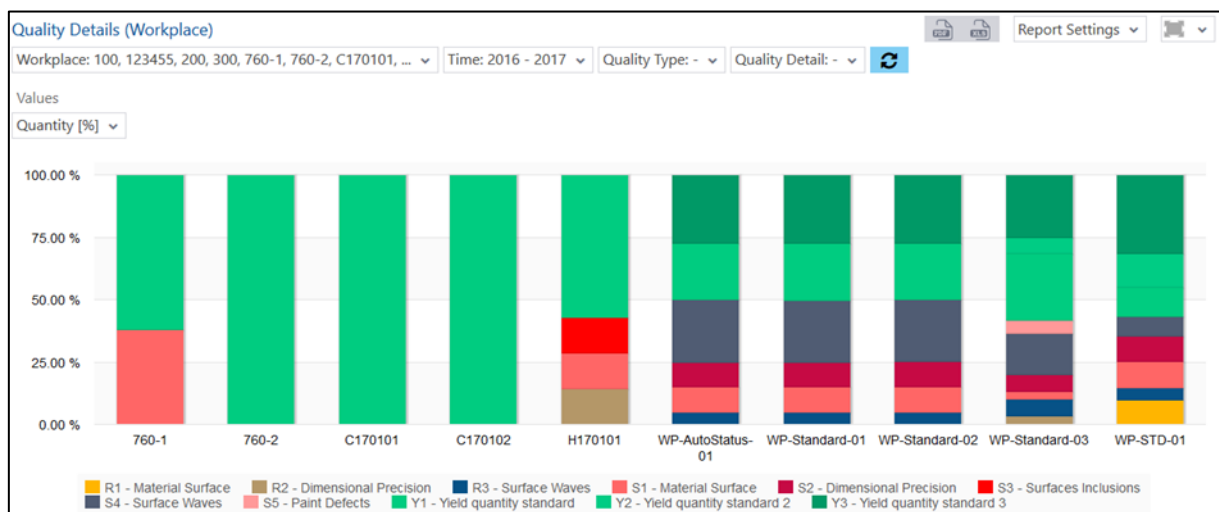

Fig. 103: Quality details (workplace) as a column chart
- Quality details (workplace) as column chart (fig. 103):